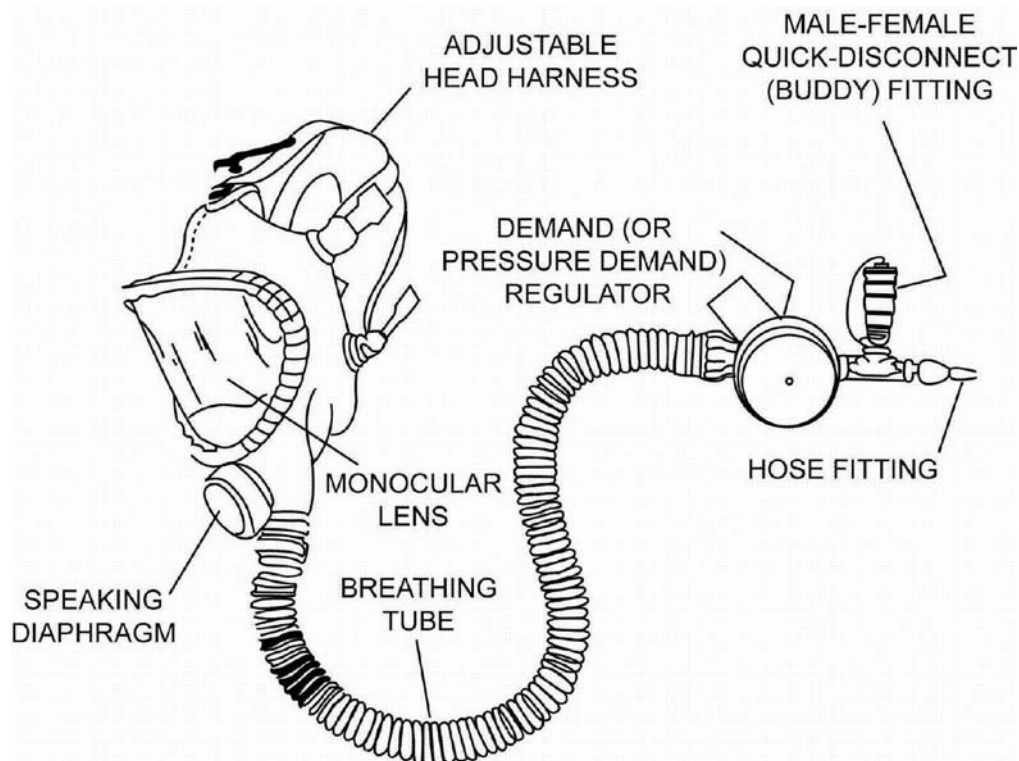

Figure 077-3-48. EAB Mask with Buddy Fitting
**077-3.5.1 OVERVIEW.** The EAB station supplies clean air for the submarine crew in the event of environmental contamination. Sufficient EAB stations are provided throughout the submarine to allow watch and DC personnel to move about and perform their duties under conditions of poor visibility. There are more EAB stations located in the berthing area, the command and control center, and the crew's mess area than in the less frequented areas of the submarine. The EAB stations are to be clearly labeled and operating instructions should be posted. The EAB mask (Figure 077-3-48) plugs into the EAB stations for emergency breathing air supply.